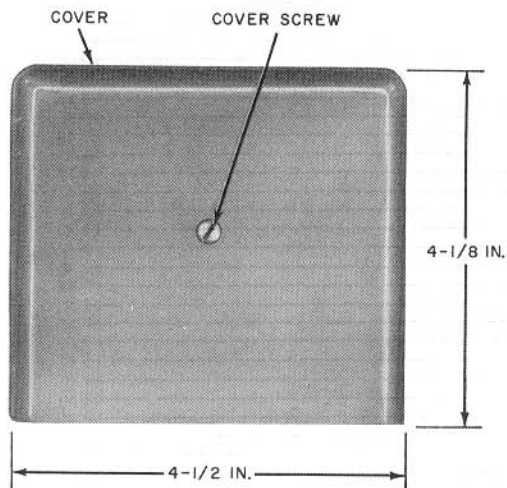

Fig. 3—149A (MD) Adapter Cover (Front View)
- Has a removable polystyrene cover (Fig. 3).